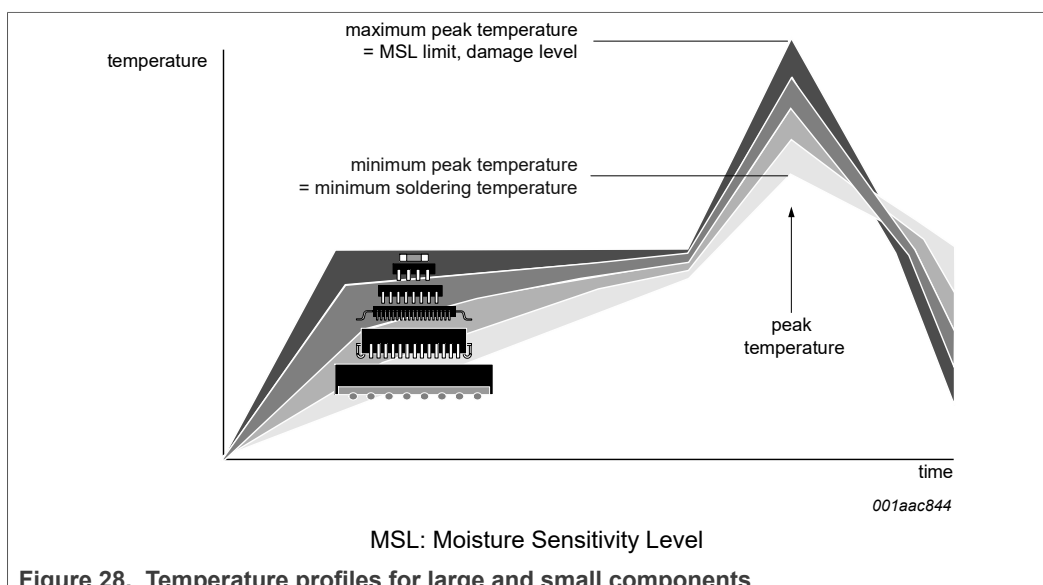

Figure 28. Temperature profiles for large and small components
- Lead-free versus SnPb soldering; note that a lead-free reflow process usually leads to higher minimum peak temperatures (see Figure 28) than a SnPb process, thus reducing the process window
Studies have shown that small packages reach higher temperatures during reflow soldering, see Figure 28.
| Fig. 14. | Driving ribbon or flat telephone cables .....                                                                                                        | 13 | Fig. 28. | Temperature profiles for large and small components .....                                             | 27 |